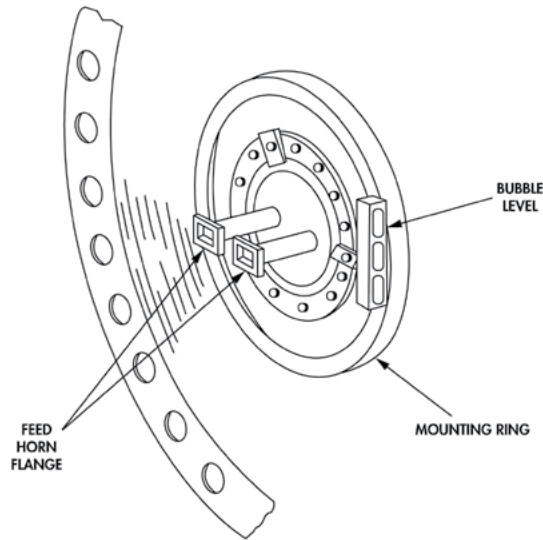

Figure 3
- 2.4.2 Place bubble level vertically on mounting ring of reflector. (see Figure 3). Adjust elevation bolt until antenna is vertically level.